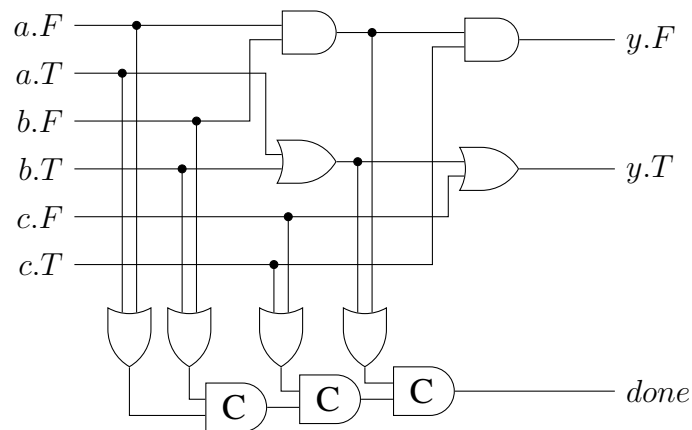

Figure 3: 4-phase QDI dual-rail function block
Consider the 3-input 4-phase QDI dual-rail function block shown in Figure 3. $X.F$ denotes the false rail of the dual-rail signal X , while $X.T$ denotes the true rail.
- Implement an equivalent version of the circuit in Figure 3 using the DIMS design style!